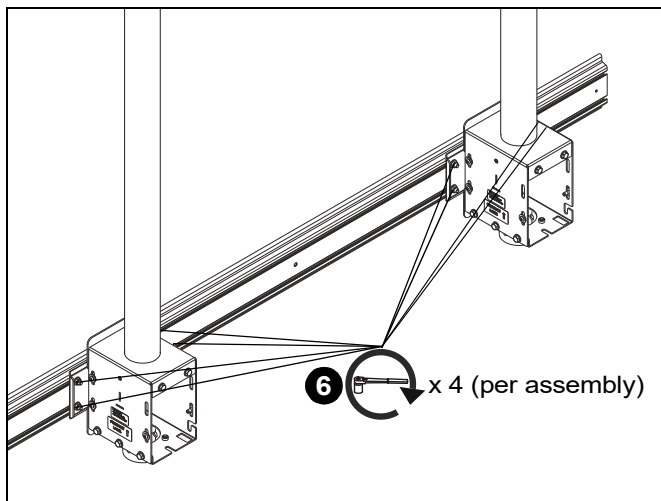

Figure 6
6. Tighten four bolts on back of each assembly to secure rail (HH) in place. (See Figure 6)